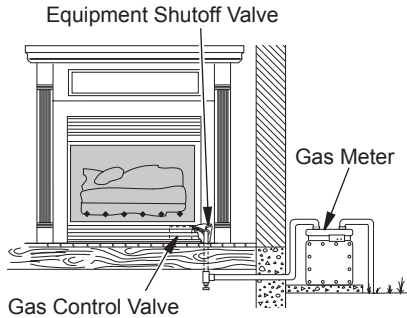

Figure 22 - Checking Gas Joints for Natural Gas
3. Check all joints from gas meter to equipment shutoff valve for natural gas or propane/LP supply to equipment shutoff valve for propane/LP (see Figures 22 and 23). Apply noncorrosive leak detection fluid to all joints. Bubbles forming show a leak.
4. Check all joints from equipment shutoff valve to gas control valve (see Figures 22 or 23, page 16). Apply noncorrosive leak detection fluid to all joints. Bubbles forming show a leak.